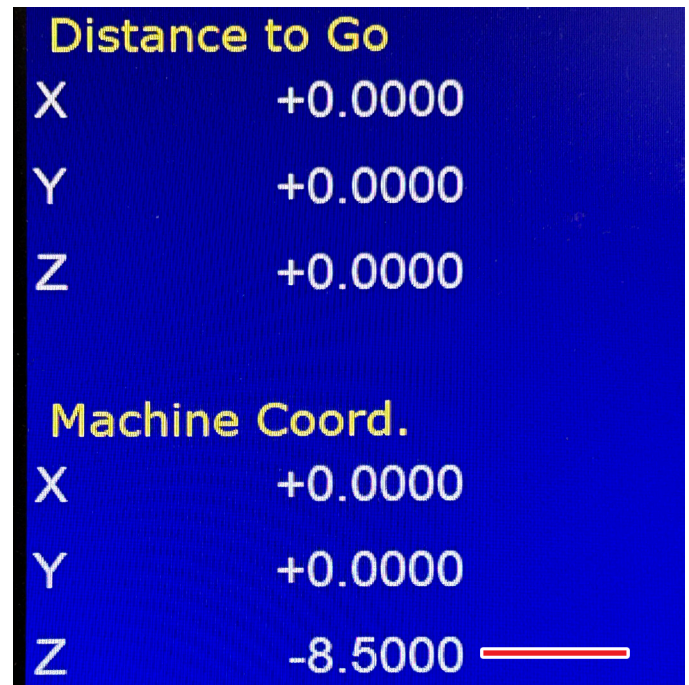

FIGURE 8
5. Once you have reached the max travel distance, write down the value for that axis from the Machine Coordinate page. This will be the value that you put in the software travel limits for that axis. In this example, we are setting the Z-axis travel. When we reached the end of travel, the Z-axis amount on the Machine Coordinate page was Z=-8.5000 (see Figure 8).